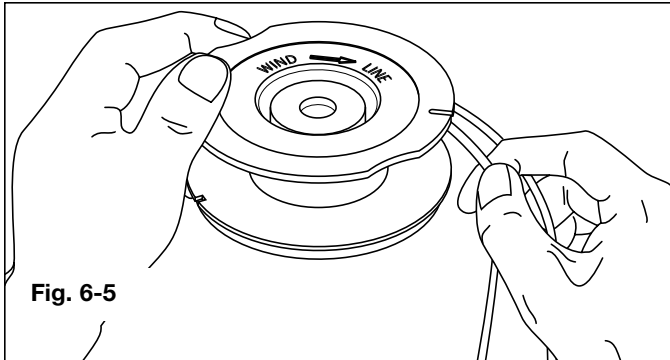

Fig. 6-5
8. Wind the lines in tight even layers, onto the inner reel (Fig. 6-5). Wind the line in the direction indicated on the inner reel. Place your index finger between the two lines to stop the lines from overlapping. Do not overlap the ends of the line. Proceed to step 11.